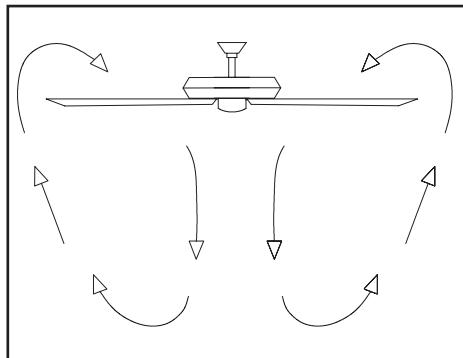

Figure 14
**Warm weather - (Forward)** A downward air flow creates a cooling effect as shown in Figure 14. This allows you to set your air conditioner on a higher setting without affecting your comfort.